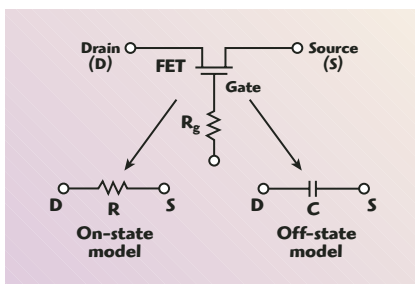

Fig. 4 Transistor on/off equivalent model.
- As shown in Figure 4, when the transistor is turned on and off, it can be modeled as a resistor  $R$  and a capacitor  $C$ . The resistor  $R$  results in an insertion loss when a signal passes through the transistor; the capacitor  $C$  provides the isolation between the two ports of the transistor.